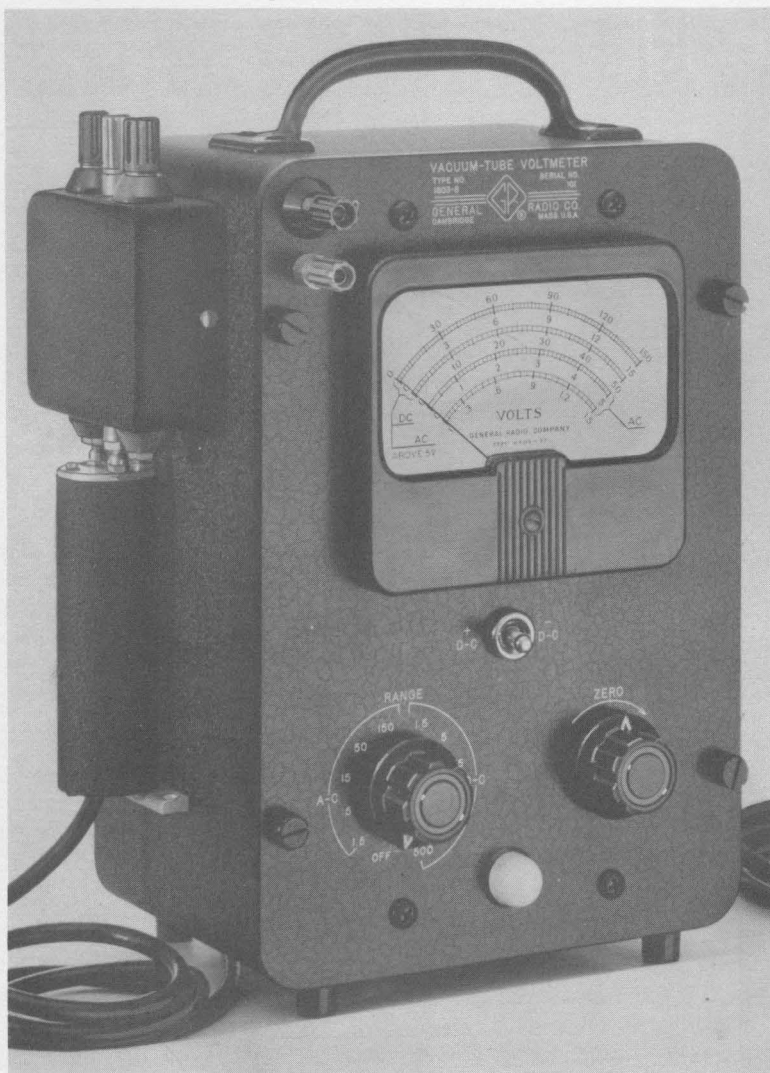

Figure 1. Type 1803-B Vacuum-Tube Voltmeter.
1.1 PURPOSE. The Type 1803-B Vacuum-Tube Voltmeter (Figure 1) is an accurate high-impedance voltmeter designed to meet the majority of voltage-measurement requirements in the laboratory, test shop, and production line. Accuracy is ± 3 percent on all but the two highest d-c ranges, where it is ± 4 percent. In addition, a built-in multiplier extends the a-c range to 1500 volts at audio and ultrasonic frequencies with an additional error of ± 1 percent.